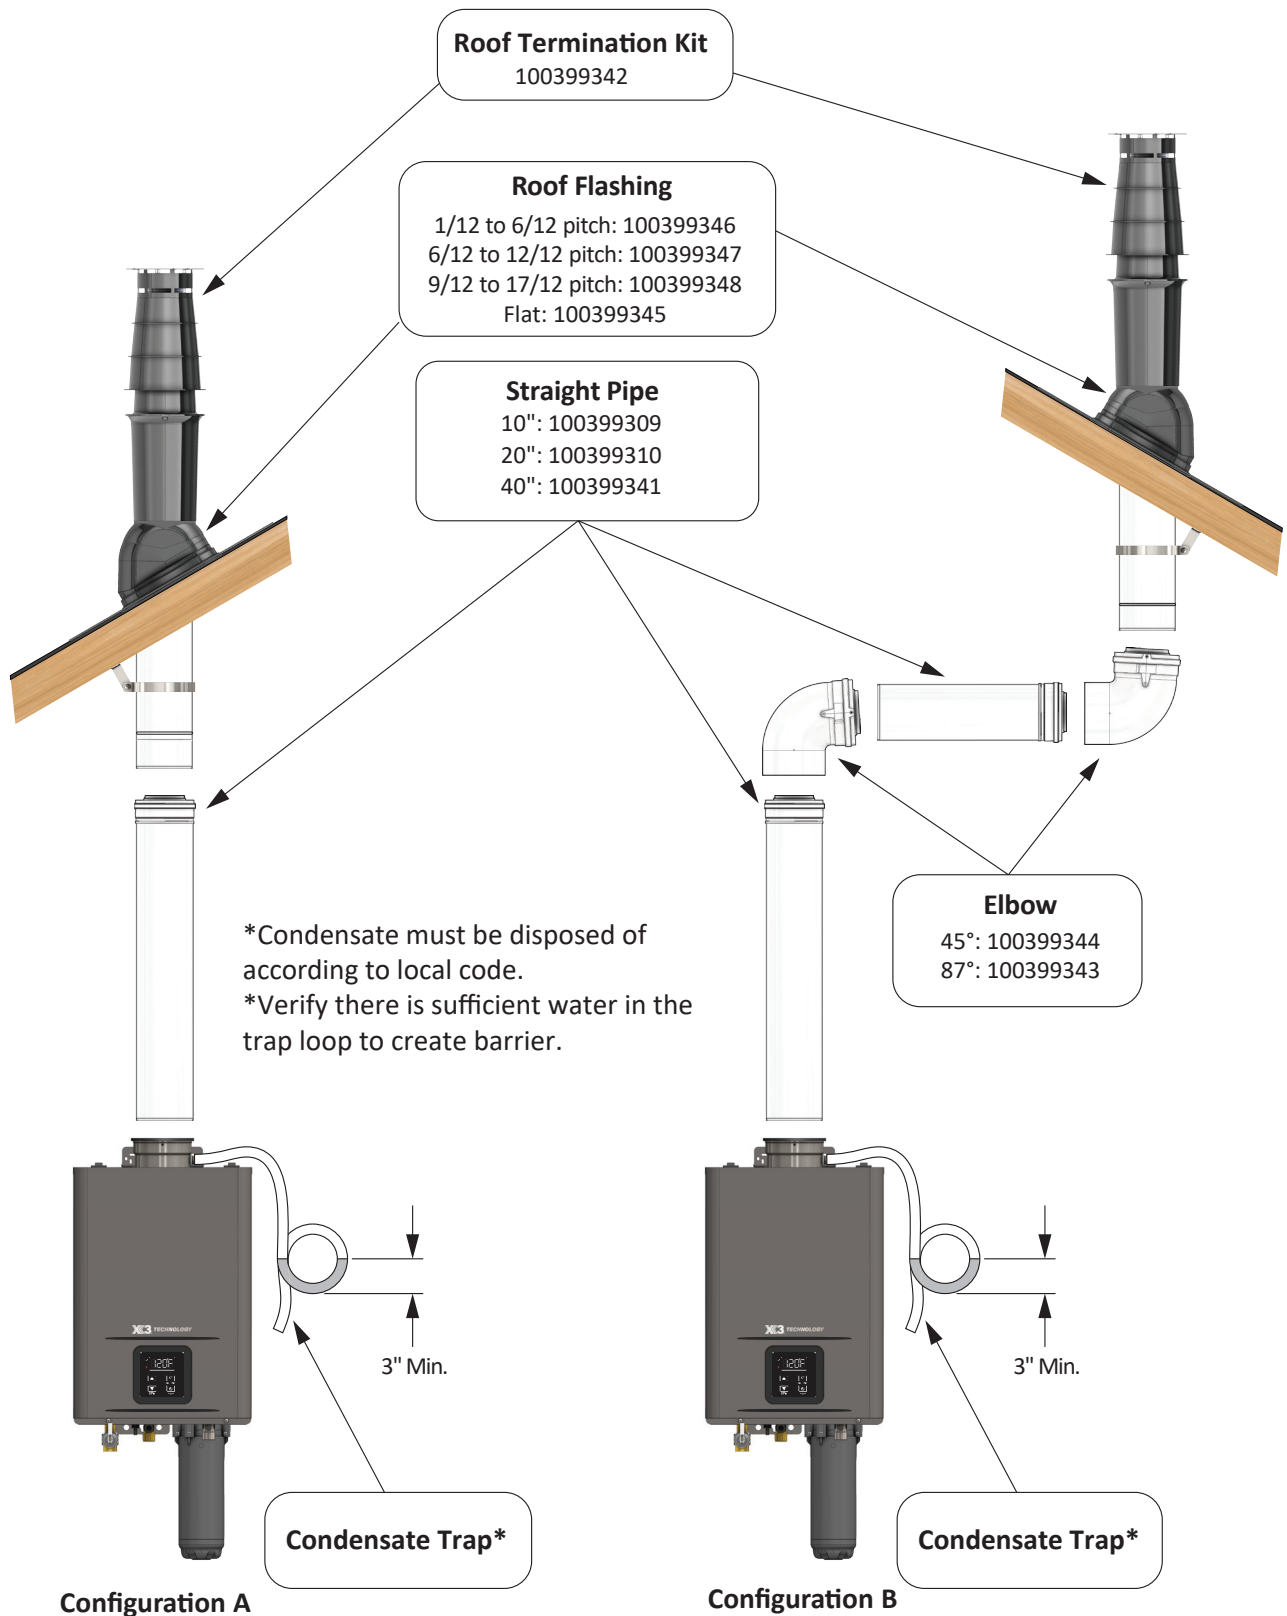

Figure 13 - Vertical Installation
- This venting component must be installed in roof top terminations and when horizontal terminations exceed 8 ft. of equivalent vent length, excluding the sidewall termination. Condensate is corrosive and should be treated and disposed of according to local codes. See Figure 12 & Figure 13.
For details of the venting installation, refer to the CoxCentric®, Metal-Fab Corr/Guard® or Centrotherm Eco Systems Direct Vent APNC35 concentric venting installation manuals. See Figure 12 and Figure 13 for proper venting configurations for horizontal and vertical applications.